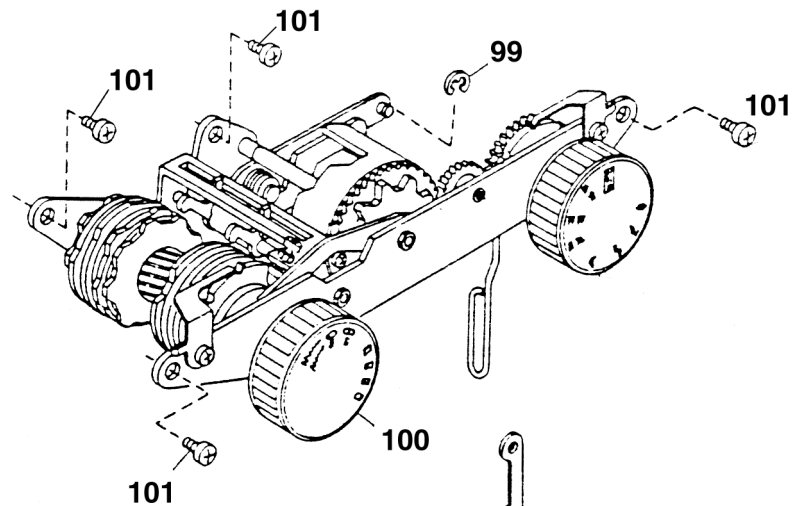

Fig. 31
- Take out lock washer 99 (fig. 31).
- Set zigzag control knob 100 (fig. 31) to the buttonhole seam "1" and loosen the 2 mm Allan screw.
- Insert the four retaining screws 101 (fig. 31).
- Fit zigzag control knob 100 (with buttonhole seam "4") on top and tighten the Allan screw (fig. 31).